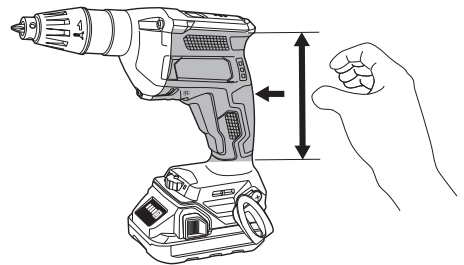

Fig. 1
2. During operation, make sure to firmly hold the tool's handle. Failure to do so may result in injury. (Fig. 1)